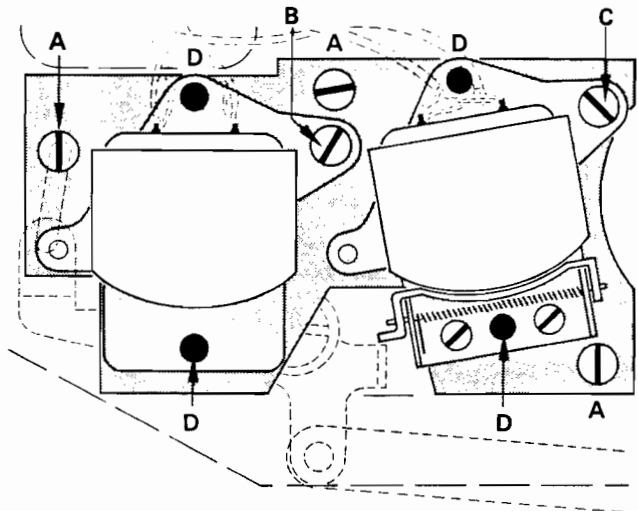

Fig. 6.5-67
- Set output voltage to a maximum ( sharp ) with screw B ( fig. 6.5-67 ) turn slowly - indication delay ! ).